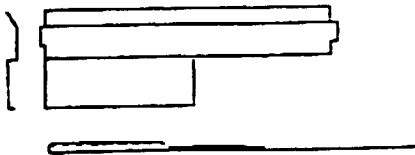

Figure 8
18. Install one of the new can stop shims in each column (See figure 8, pg. 9.)